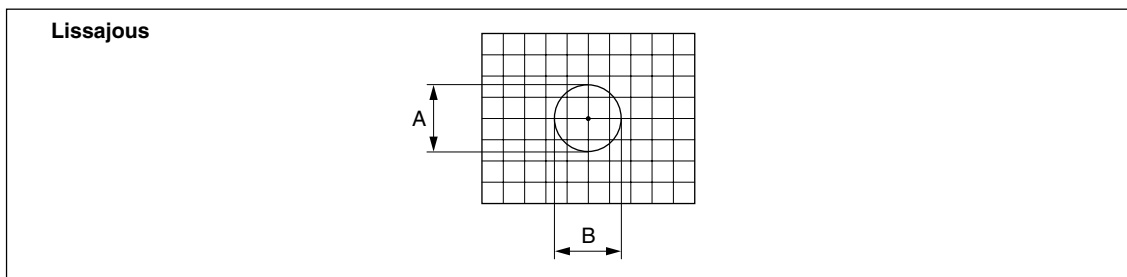

Fig. 3-15
- 5 Move the scale, and make sure that the amplitudes A and B (see Fig. 3-15) of the Lissajous' figure are within the range of the specified values over the entire length.